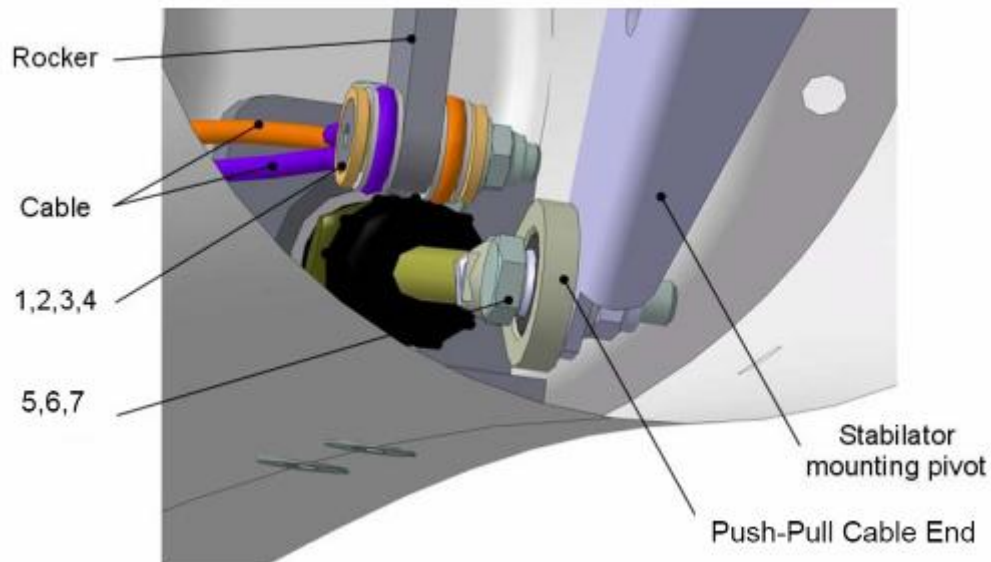

Fig. 4-6
4. Disconnect Cables from Rocker. For this unscrew nut (1) and remove bolt (2) together with bushes (3) and washer (4). Disconnect Push-Pull Cable End from Stabilator mounting Pivot, for this unscrew nut (5) and remove bolt (6) together with washer (7), Fig. 4-6.